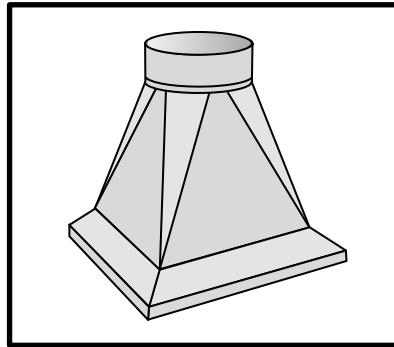

FIGURE 11.2
11.2 Identify the development shown in FIGURE 11.2 below.